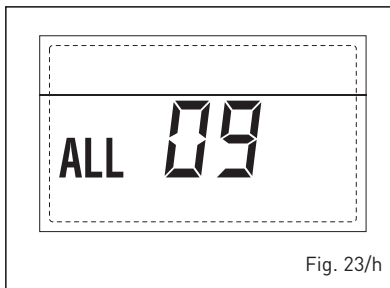

Fig. 23/h
**- D.H.W. SENSOR ANOMALY ALARM 10 (fig. 23/i)**